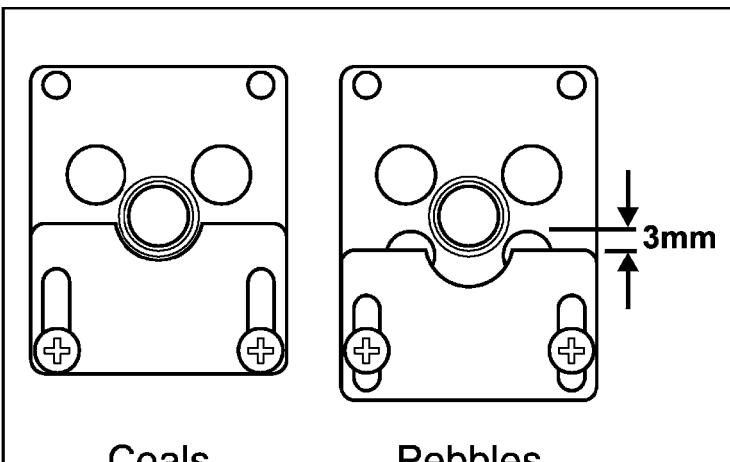

Figure 33. Aeration shutter settings
1. The aeration shutter is factory set for use with a 'pebble' ceramic fuel effect. It is important to ensure that the aeration setting is correct for the ceramic fuel effect used. Check the aeration shutter setting even if fitting the 'pebble' fuel effect (See figure 33).